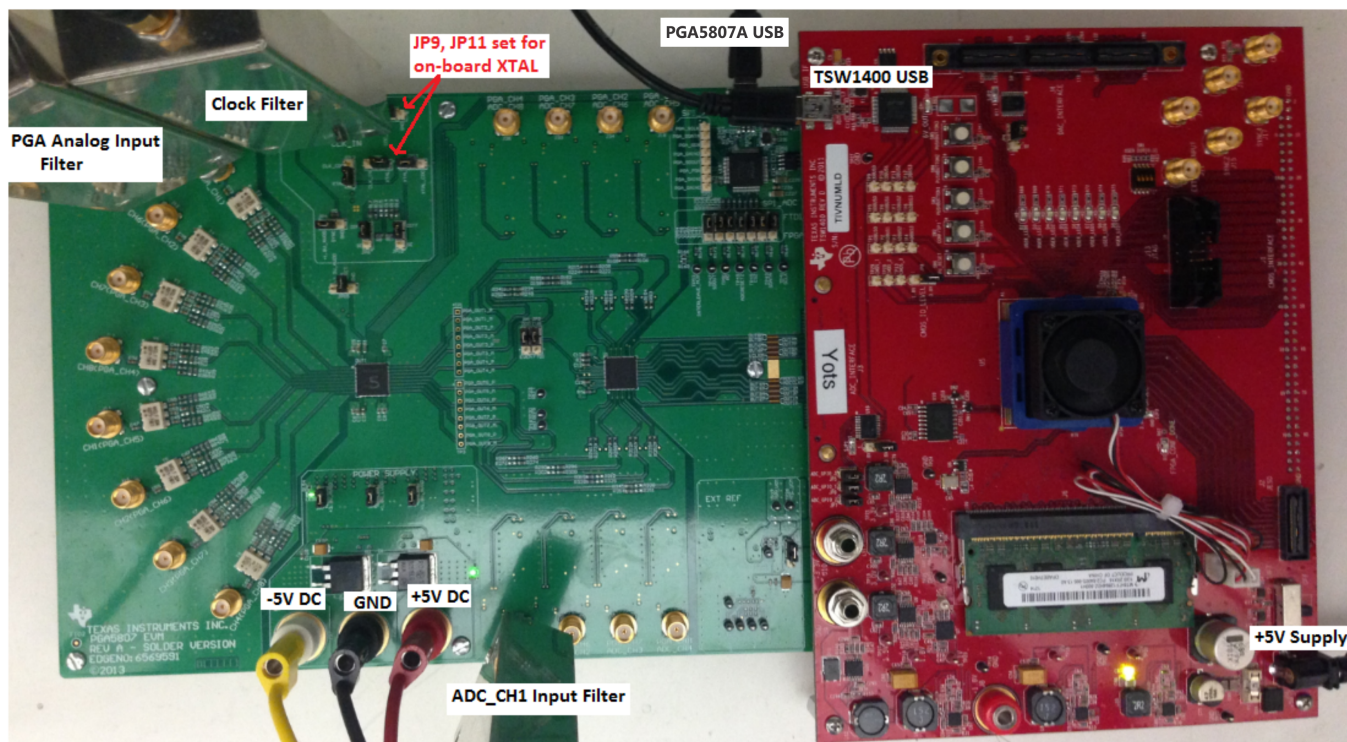
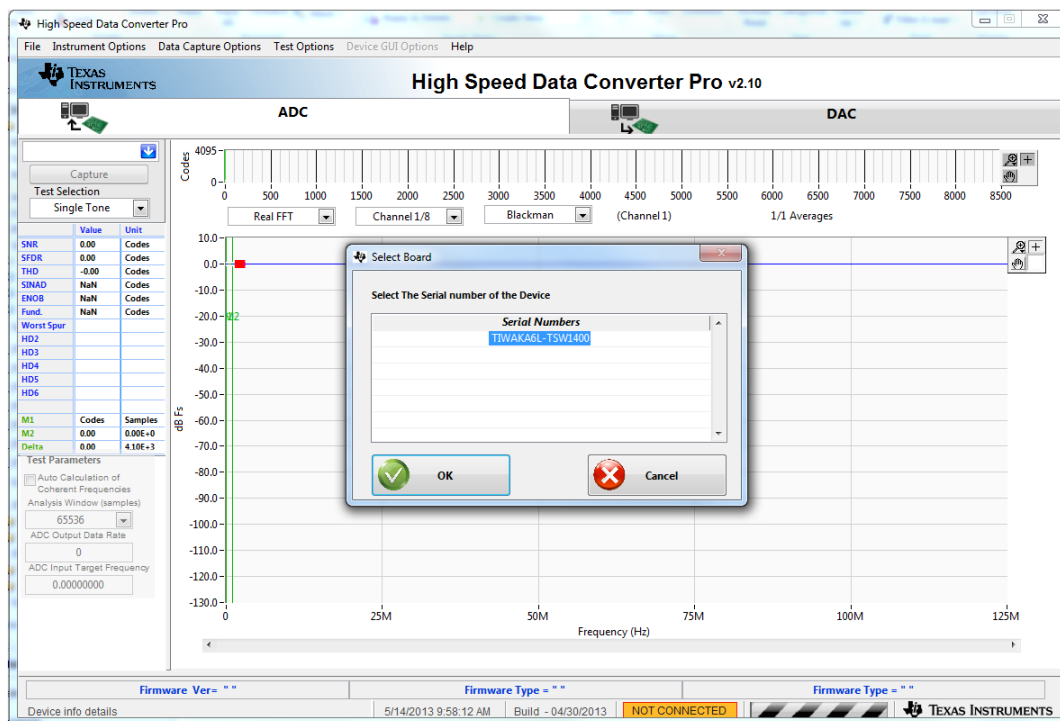

Figure 19. TSW1400 and PGA5807A Setup
Figure 22. TSW1400 GUI Setup (a)
The connections shown in Figure 19 should be made for proper hardware setup (Note: Testing the LVDS interface between the PGA5807A EVM and the TSW1400 EVM can be performed by testing the ADS5296A which comes installed on the PGA5807A EVM. Using a RAMP test pattern function that is generated within the ADS5296A along with the on-board 80-MHz crystal oscillator (XTAL) that provides the ADC sampling clock, the LVDS interface can be tested with no signal generators required. This configuration is only recommended for testing the RAMP function as low phase noise filtered signal sources must be provided to the ADC clock input and the ADC analog inputs or PGA5807A analog inputs for measuring device performance. **Also, the on-board XTAL providing the sampling clock to the ADC provides a 3.3-V signal at its output. This signal level exceeds the maximum voltage rating of the ADS5296A clock input port. Therefore, if EVM jumpers are configured such that the ADC clock port is single-ended, the clock input signal will exceed the maximum voltage rating of the device. This is not a problem for evaluation purposes but could have long-term reliability consequences on the device and is, therefore, not a recommended implementation).**
1. With the setup outlined in Figure 19 established, launch the *High Speed Data Converter Pro* GUI. The GUI should automatically detect the serial number of the TSW1400 EVM, connected as shown in Figure 22. Click on OK.